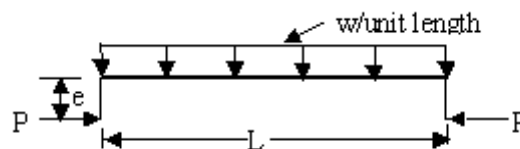

Figure 3b
- A straight uniform column of length 'L' and bending stiffness 'EI' is subjected to uniform lateral loading w/unit length shown in fig 3b. The end attachments do not restrict rotation of the column ends. The longitudinal compressive force 'P' has eccentricity 'e' from the centroids of the end sections and is placed so as to oppose the bending effect of the lateral loading. The eccentricity e can be varied and is to be adjusted to the value which, for given values of P and w, will result in the least maximum bending moment of the column. Show that $e = (w/Pa^2) \tan^2 aL/4$ where $a = P/EI$. [6+10]